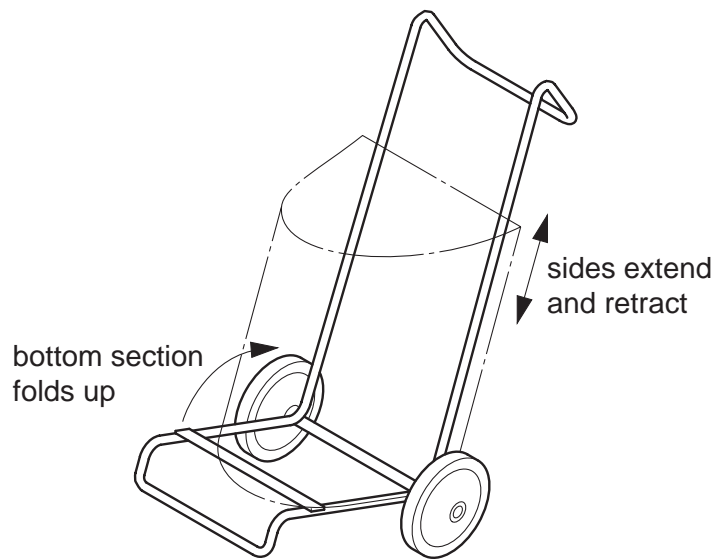

Fig. 7
- 7 Fig. 7 shows an incomplete idea for a trolley to transport a garden rubbish bin. Most of the trolley is made from metal. The wheels have a 12 mm hole in their centre.